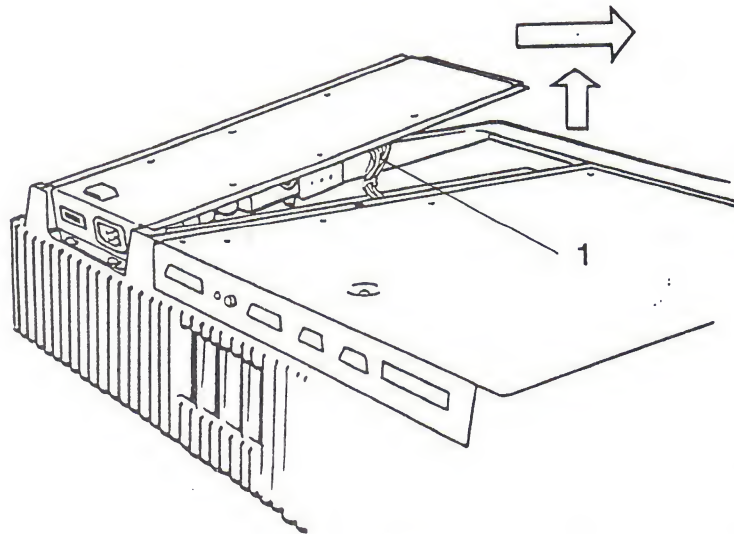

FIGURE 12
5. Lift up the edge of the power supply and slide it until it clears the two rear mounting screws. Lift the power supply out. (See Figure 12).
7. Disconnect the power supply connector by squeezing in on the tabs and gently (with a rocking motion) pull the connector out. (See Figure 12, Item 1).